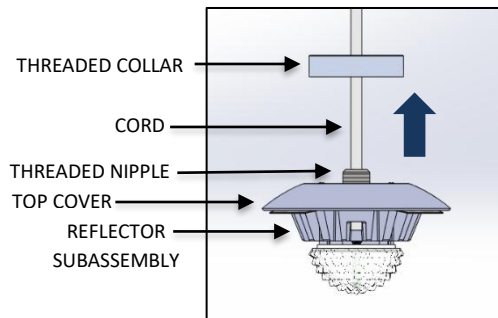

FIG. 28 THREADED COLLAR
20. Unscrew and fully remove the THREADED COLLAR from the THREADED NIPPLE and CORD as show in FIG. 28.